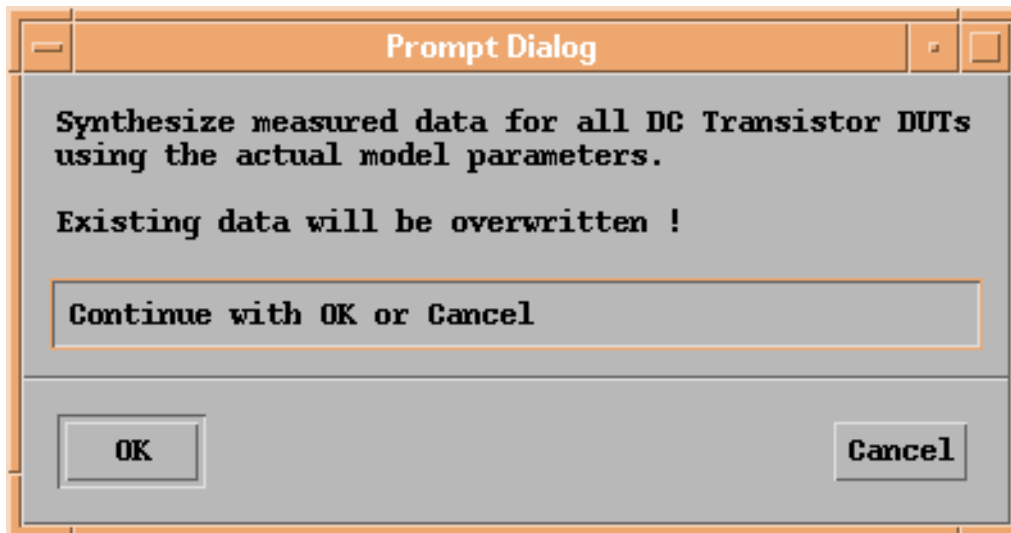

Figure 1-23. Prompt dialog for synthesizing measurement data
- Using the **Synthesize** button, you are able to simulate data from existing model parameters. By selecting this feature, already measured data files are overwritten with synthesized data. You will be prompted (Figure 1-23) before existing data files are overwritten.